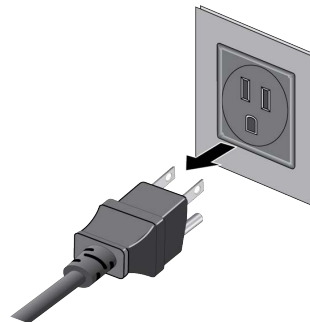

Figure 66. Disconnecting the Power Cord from the AC Power Source
8. Power off the switch by disconnecting its AC power cord from the AC power source. Refer to Figure 66.